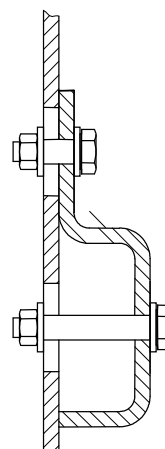

Fig.2. Attach the scraperboard +250° with two bolts.
4.	In order to avoid vibrations in the belt scraper, we recommend that the attachment be made using two bolts as in fig. 2.